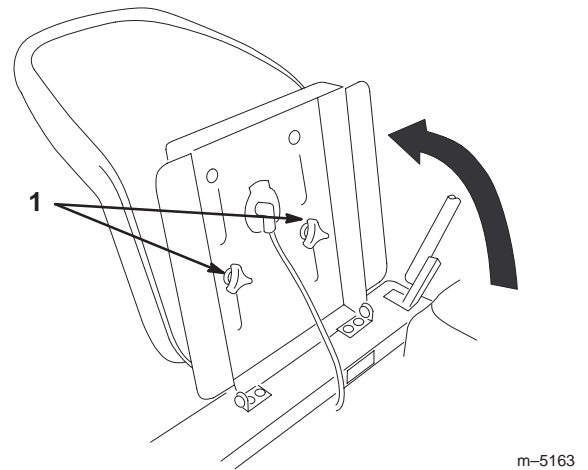

Figure 12
1. Raise the seat and loosen the adjustment knobs (Fig. 12).